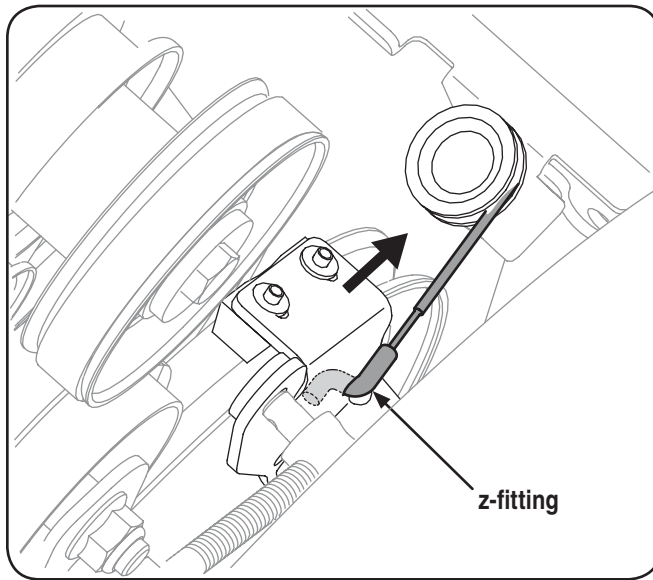

Figure 7-5
3. Pull the brake bracket assembly towards the cable guide roller and unhook the auger cable "Z" fitting. Refer to Fig. 7-5.